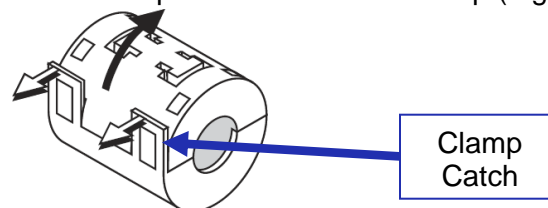

Figure 344: Clamp Catch
- If necessary, push the catch to open the ferrite core clamp (Figure 344).